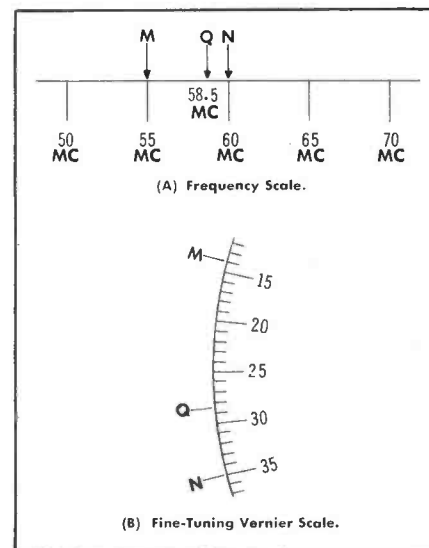

Fig. 1. Interpolation of Frequency Dial Settings.
1. Find the vernier-scale readings for positions M and N which are for 55 and 60 megacycles, respectively. These are found to be 14 and 35, as shown in Fig. 1.